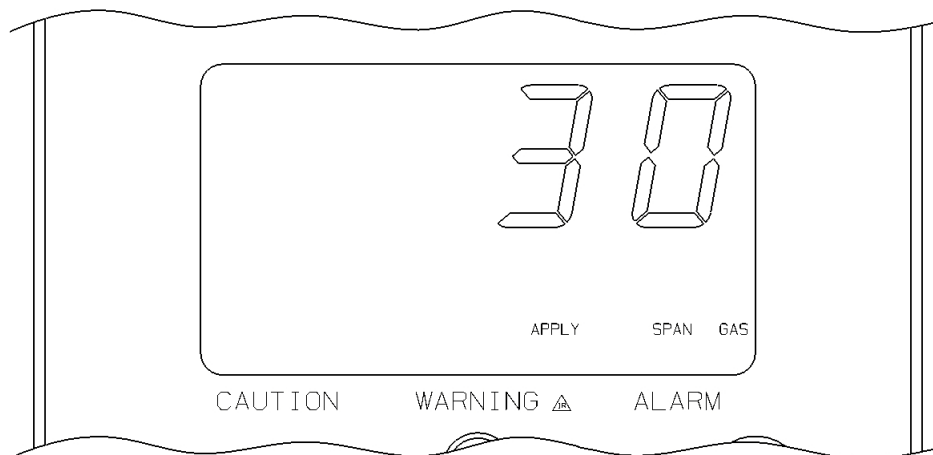
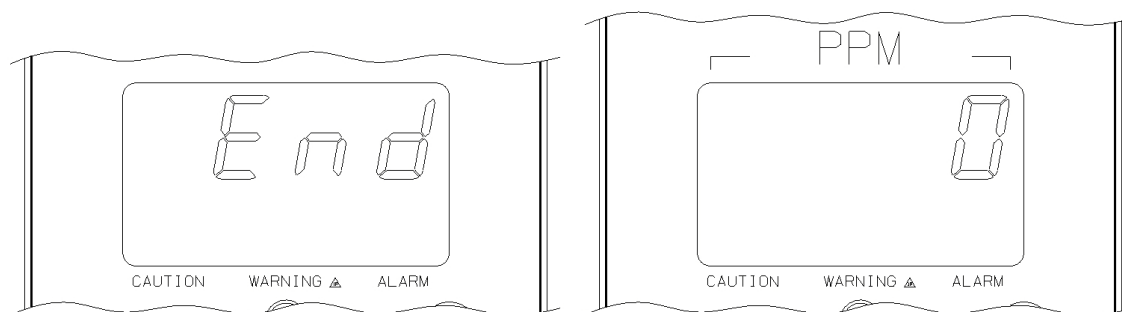
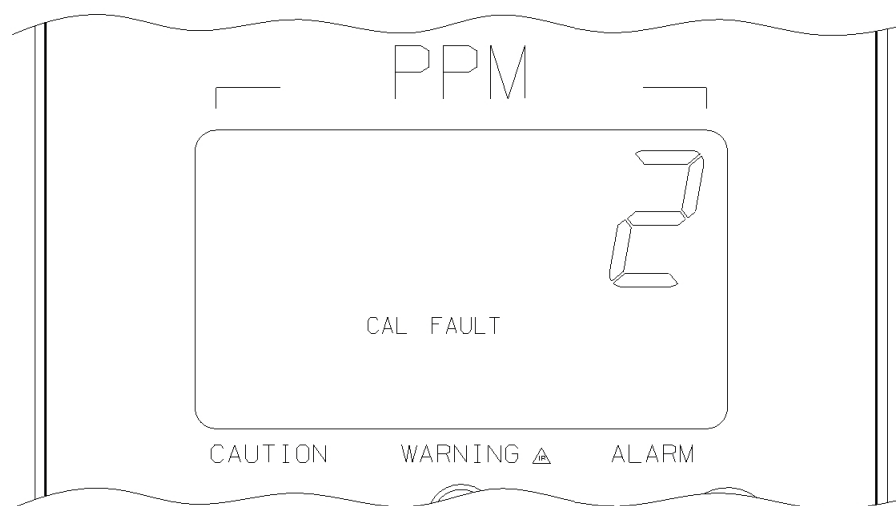

Fig. 27 Apply Zero Gas Flag
Fig. 28 Calibration End Display
Fig. 29 Calibration Fault Flag
(4) After the 30 second countdown:
- b) Once the gas value on the display is stable for 15 seconds, the alternating display stops. If the calibration is successful, the display will show END and 0 (Fig. 28 "Calibration End Display").
(7) If a **CAL FAULT** flag appears on the unit (Fig. 29 "Calibration Fault Flag"), this indicates:
- Apply zero gas (Fig. 27 "Apply Zero Gas Flag")
- (4) After the 30 second countdown:
- Once the gas value on the display is stable for 15 seconds, the alternating display stops. If the calibration is successful, the display will show END and 0 (Fig. 28 "Calibration End Display").
- (5) **If using the zero cap:**
- (6) **If using the zero cylinder:**
- (7) If a **CAL FAULT** flag appears on the unit (Fig. 29 "Calibration Fault Flag"), this indicates:
- (8) **If using the zero gas:**